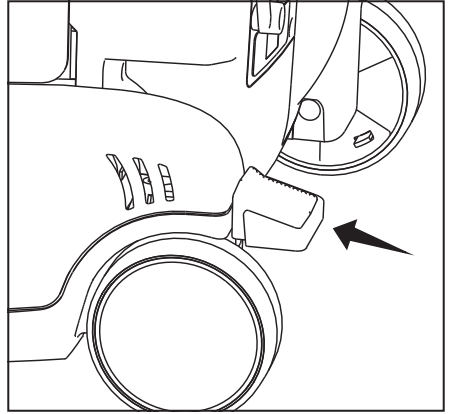

Fig. 1
- Press the Handle Release Pedal once for normal vacuuming (Fig. 1).